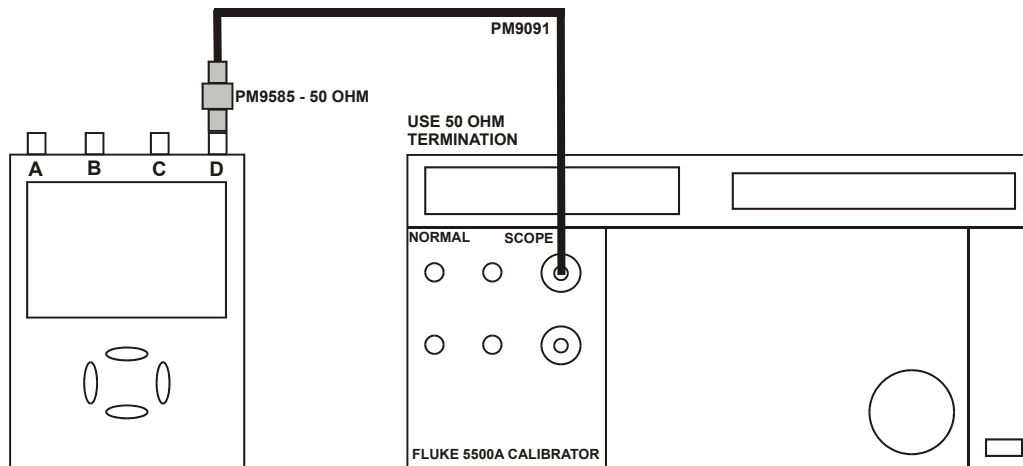

Figure 5-6. 5500A SCOPE Output to Test Tool Input D
2. Connect the Test Tool to the 5500A as shown in Figure 5-6.